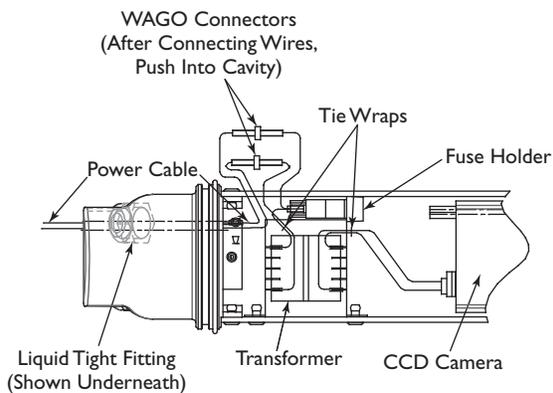

Figure 5 Power Connections
1. Use the **left** liquid-tight fitting of the housing to route the power wire into the housing (see **Figure 5**).
The internal transformer provides 24 VAC for both the heater/defogger and 24 volt camera power (see **Figure 5**).
2. The secondary flying leads (white/black striped) will not be used in this application and should be taped to prevent shorting. See wiring diagram **Figure 7** for clarification and **Figure 5** for power connection drawings.
3. Connect the secondary flying leads (white/black striped wires/pins 7 and 12) to the camera's 24 volt input. See wiring diagram **Figure 8** for clarification and **Figure 5** for power connection drawings.
2. The secondary flying leads (white/black striped) will not be used in this application and should be taped to prevent shorting. See wiring diagram **Figure 9** for clarification and **Figure 5** for power connection drawings.